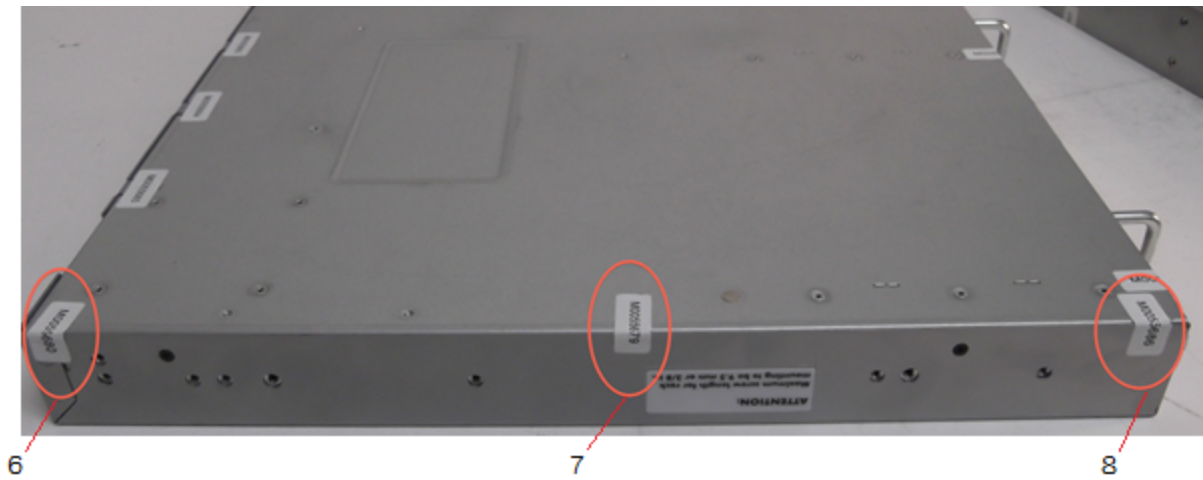

Figure 20 VDX 6740-24, VDX 6740-48 and VDX 6740-64-ALLSW bottom left side seal locations
2. Apply three (3) seals, 6 to 8, across the seam between the left side of the top cover and the bottom side of the chassis. Each seal must wrap across a 90 degree angle from the bottom of the chassis to the side of the top cover. See Figure 20 on how to position each seal.